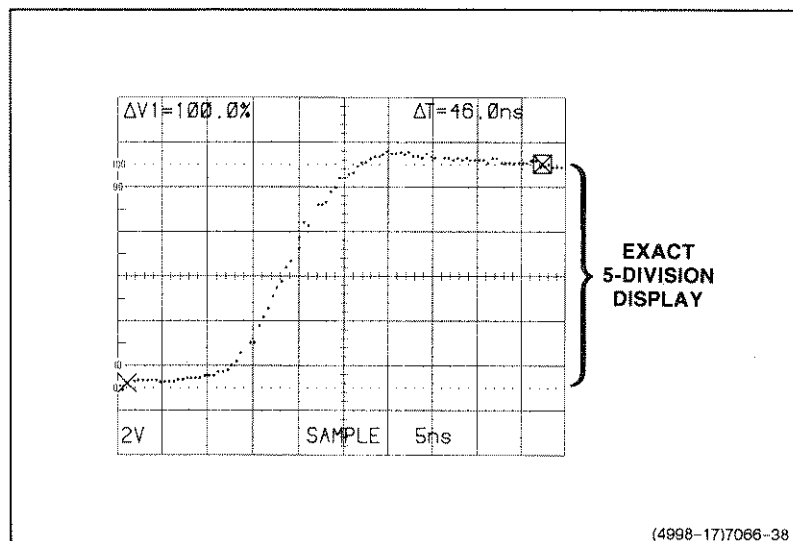

Figure 6-17. Rise-time setup, five-division display.
- Set the SEC/DIV switch for a single-event display, with the rise time spread horizontally as much as possible within the viewing area. The waveform's maximum and minimum levels must still be visible (see Figure 6-17).